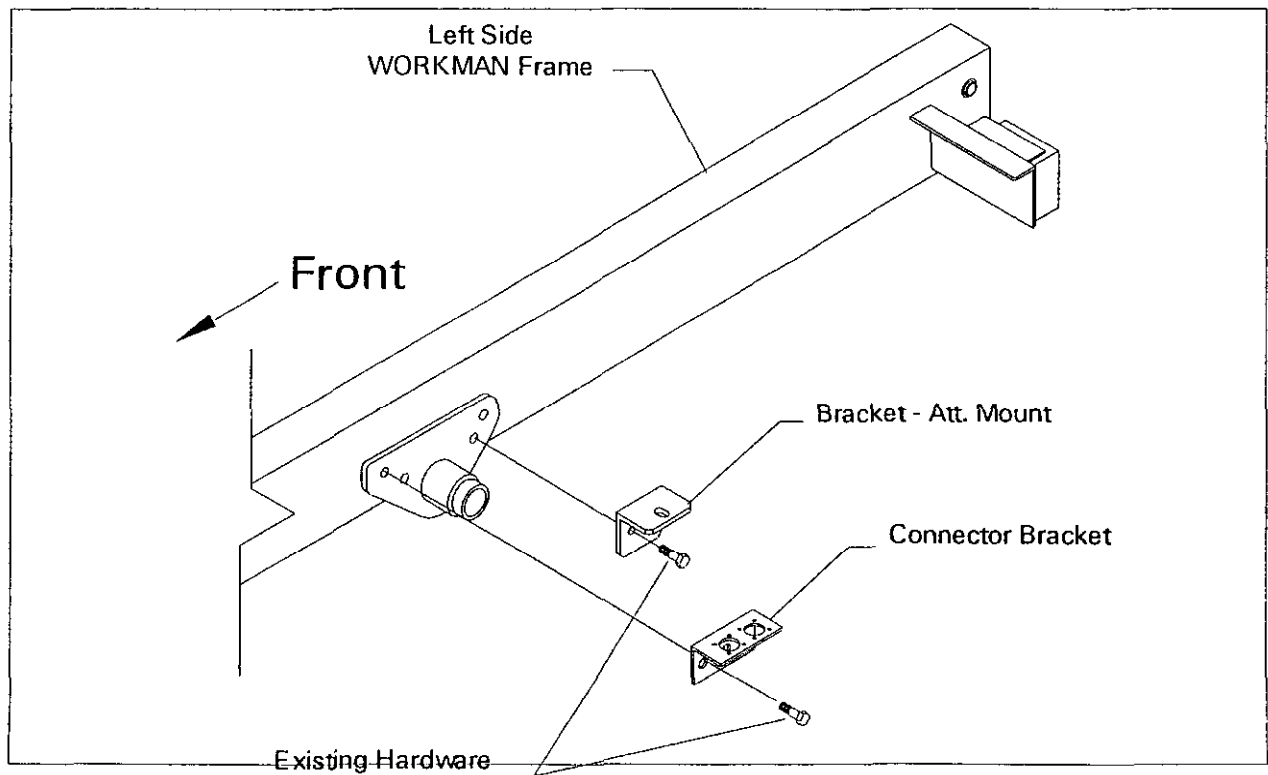

Figure 3
2. Mount (92-4524)connector bracket to the left side of the rear frame of the Workman, using the front two bolts of the main engine support tube. (See Fig. 3)